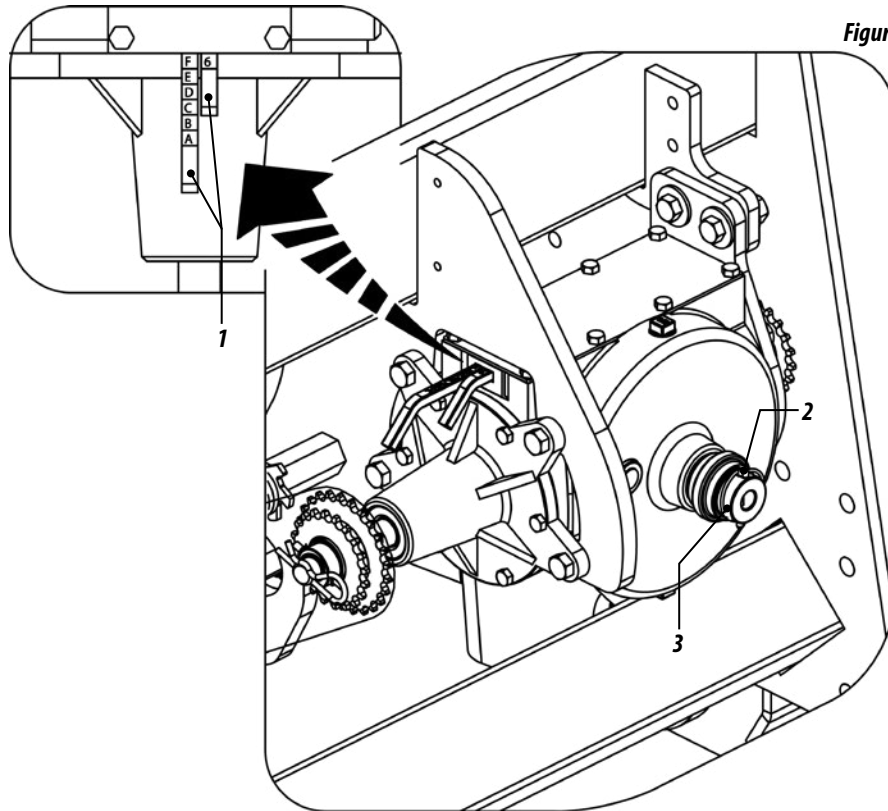

Figure 32
- 2- For seed regulation, select the desired quantity in the tables and check the corresponding combination of cursors (1). Example: position F 6 indicates that the cursor of letters must be in position "F" and the cursor of numbers must be in position "6" as detailed in Figure 32.
- 3- To move the cursor, remove the lock (2), pull the handle (3) and adjust them. At the end of the combination, return the handle (3) and replace the lock (2).